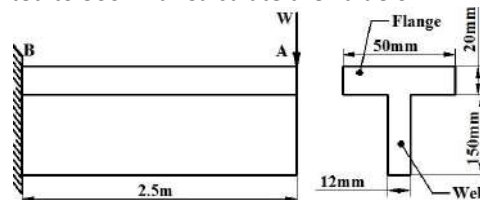

Figure 35
16. A beam of T section has a length of 2.5m and is subjected to a point load as shown in the **Figure 35**. Calculate compressive bending stress and plot the stress distribution across the cross section of the beam. The maximum tensile stress is limited to 300MPa . Calculate the value of W.